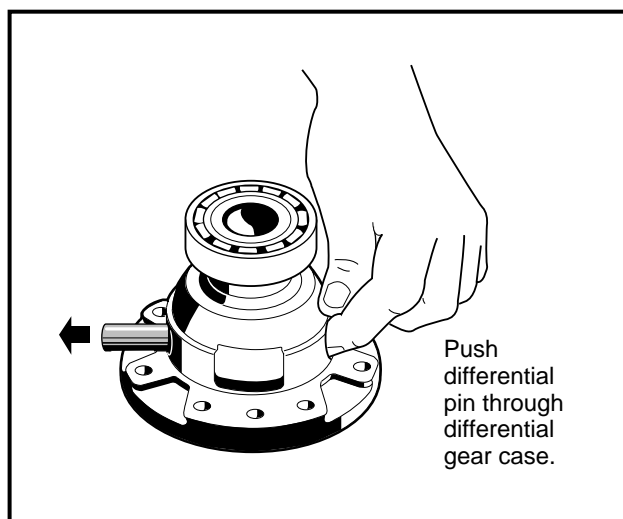

Figure 16-45 Differential Pin
4. Remove the differential pin (88) (**Figure 16-5, Page 16-4**) by pushing it through from one side (**Figure 16-45, Page 16-21**). Remove the two differential idler gears (89) and two idler gear thrust plates (85) (**Figure 16-5, Page 16-4**) as the pin is driven through. **See following NOTE.**